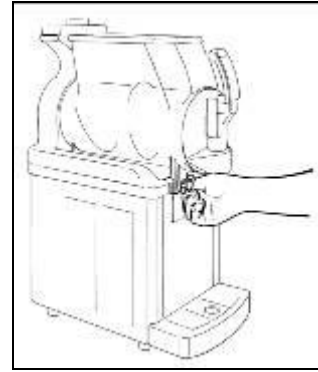

Fig. 5
- **U**nscrew the bowl knobs (fig.5).